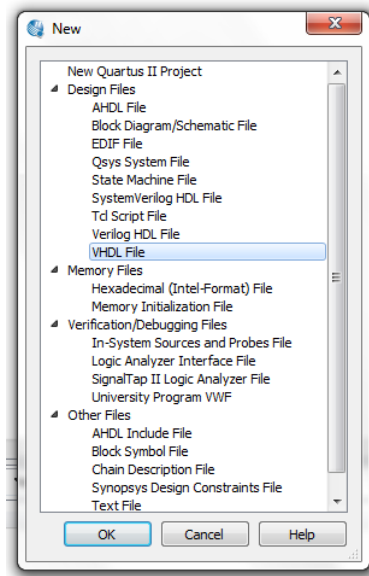

Figure 3: Create a new file menu
1. goto **File** → **New** → **VHDL File** → **OK** as shown in figure 3